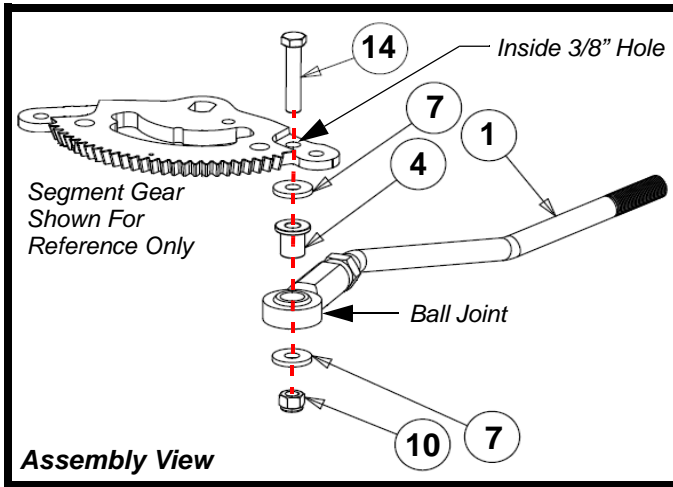

FIGURE 5
10. Install one (1) of item #14 (**710-0151**) 3/8-24 x 2.00" hex head cap screw from the top down through the inside 3/8" hole in the segment gear. See Figure 5.
11. Install one (1) of item #4 (**738-05136**) shoulder spacer into the ball joint. See Figure 5.
12. Place one (1) of item #7 (**736-0258**) 3/8 flat washer on top of the shoulder spacer. See Figure 5.
14. Install one (1) of item #7 (**736-0258**) 3/8 flat washer over #14 (**710-0151**) 3/8-24 x 2.00" hex head cap screw, then thread one (1) of item #10 (**712-3061**) 3/8-24 nylon lock hex nut onto item #14 (**710-0151**) 3/8-24 x 2.00" hex head cap screw finger tight. See Figure 5.